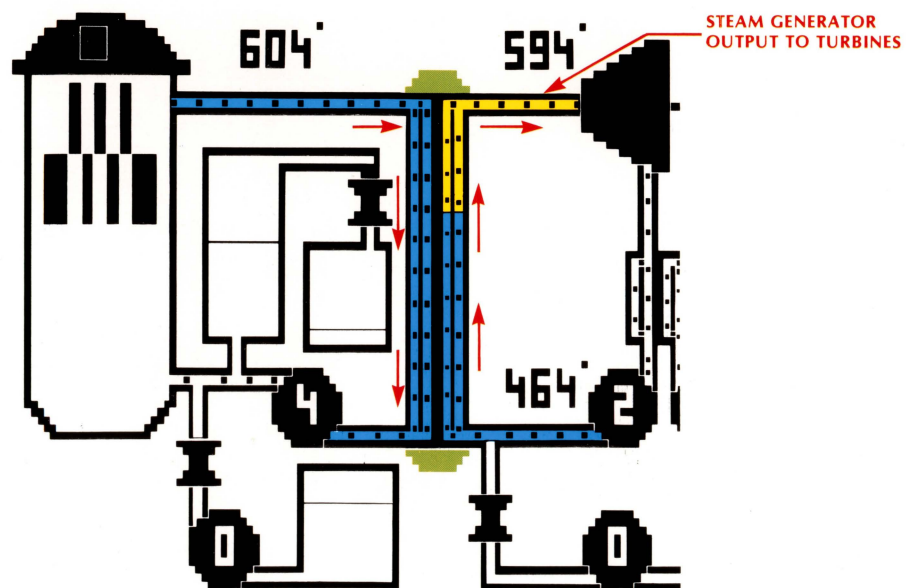

Figure 6. Steam Generator
**Steam Generator.** Heat from the reactor vessel is carried by the RCS water to the steam generator (Figure 6). This is a very simple piece of equipment. It consists of many small pipes inside a big pipe. Hot water from the Primary Loop or RCS travels downward in the small pipes; cooler water from the Secondary Loop travels upward in the large pipe. The two systems are completely isolated; water from one system never mixes with water from the other. But the heat passes through the thin walls of the small pipes, enters the cooler water in the large pipe, and boils the water into steam.